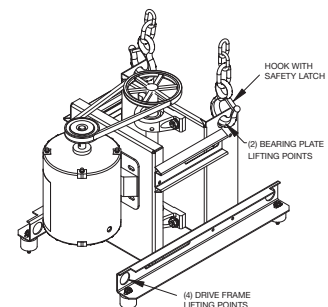

Figure 4 – Lifting Lugs on Drive Frame
4. Use lifting lugs on the drive frame to lift and place unit on top of curb. Refer to Figure 4.